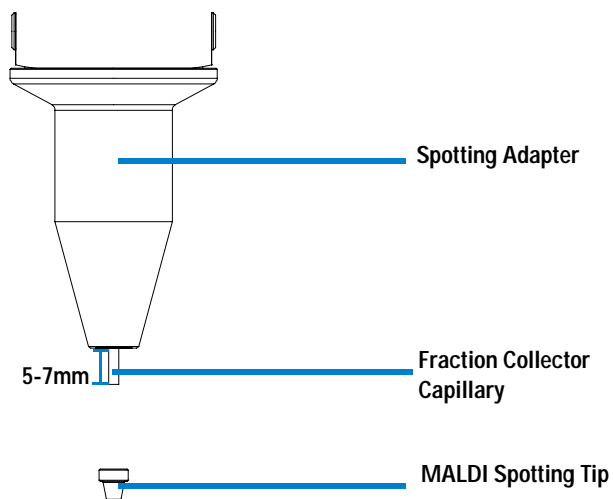

Figure 4 Capillary Alignment for MALDI Spotting
- 3 Slide the spotting adapter onto the capillary carrier arm and turn it 90 degrees to fixate it. The capillary length should be aligned as displayed in Figure 4.